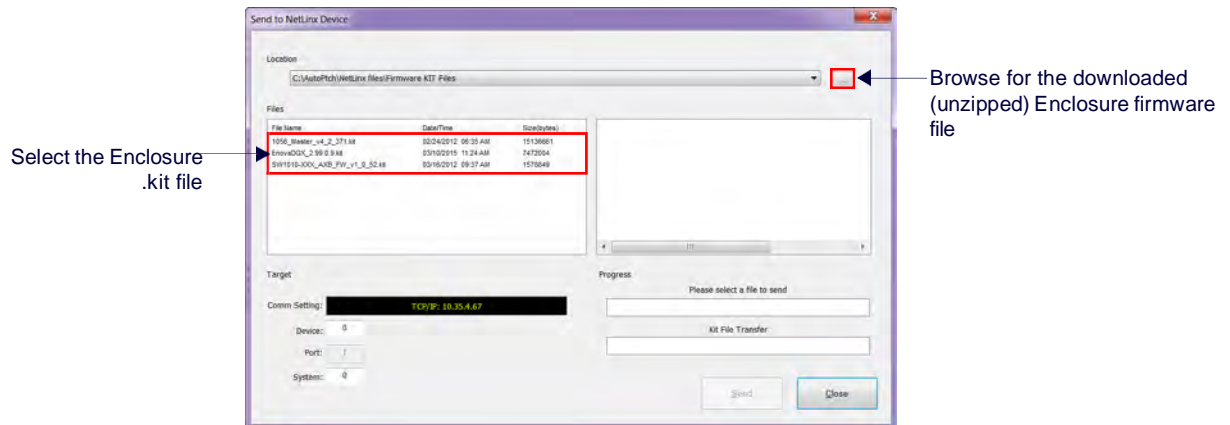

FIG. 166 NetLinx Studio - Send to NetLinx Device dialog
9. Click the Browse (...) button to navigate to the target directory (FIG. 166):